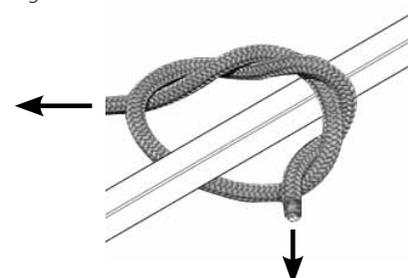

Figure 10
- a. Tie one end of the provided 9' rope to the link welded onto the stabilizer bar, just in front of the tree hugger. **Be sure your double knot is secure. SEE FIGURE 10.**
- b. Tie one end of each of the provided 15' ropes to the platform J-pipes, just in front of the bolt-on tree blade. **Be sure your double knots are secure. SEE FIGURE 10.**